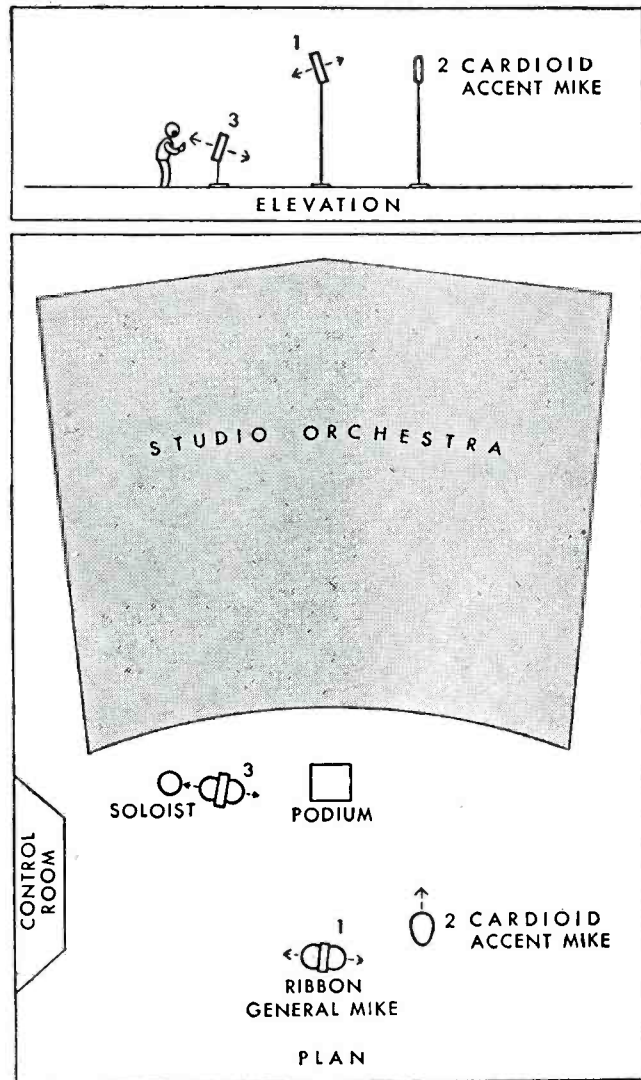

Figure 7—Plan and elevation of overcrowded studio.
(1) Place a bidirectional microphone, such as "1", Figure 7, with its insensitive direction pointing toward the orchestra. In practice this microphone will act as if G_p (see Equations 1 and 2) had a value of $1/4$ to $1/3$.
(2) Place the necessary accentuation microphones in the standard manner except that bidirectional microphones must not be placed too close to the studio wall. Where the crowding is extreme the use of cardioid microphones for accentuation purposes is preferred.
(3) Use the minimum contribution from the accentuation microphones, necessary to obtain the desired effect. Too much accentuation does more damage under overcrowded than under normal conditions, and can easily push the pick-up into the region below the useful liveness range. You then obtain "absence" instead of "presence".